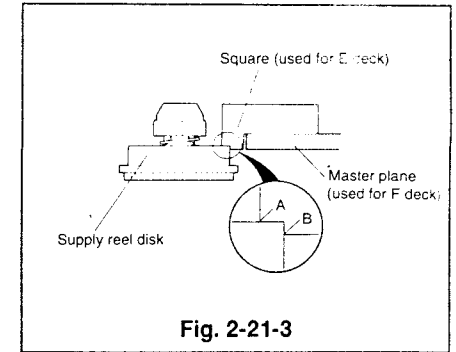

Fig. 2-21-3
- ③ Place the height adjusting jig [square](used for E deck: Part No.859C341070) on the jig, previously installed placed in Item ②, as shown in Fig. 2-21-3. Make sure that the height is correct (between A and B).
- ④ Adjust the height of the supply reel disk by varying the number of the washers(Part No.552C017020) under the disk.